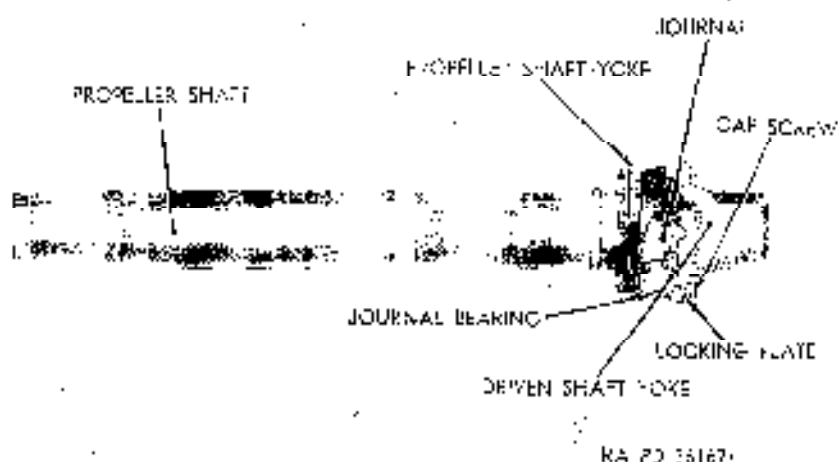

Figure 215. Yoke-mounted universal joint.
c. *Universal Joints.* The universal joint (figs. 215 and 216) installed at each end of the propeller shaft consists of a journal with four journal bearings, two of which are secured with cap screws to the propeller shaft yoke. The other two journal bearings are secured by cap screws either on a yoke (fig. 215) installed on the driver shaft, or to an adapter flange (fig. 216) which is bolted to a companion flange installed on the driven shaft.
- (1) Bend down two locking plates, remove four cap screws securing two journal bearings (two cap screws from each bearing) to driven shaft yoke, and remove propeller shaft and journal assembly from yoke (Fig. 215).
- (2) Repeat (1) above at other end of propeller shaft assembly, and remove propeller shaft assembly from vehicle.
- (3) Bend down two locking plates, remove four cap screws securing two journal bearings (two cap screws from each bearing) to propeller shaft yoke, and remove journal and bearing assembly from propeller shaft.
- (4) Repeat (3) above at other end of propeller shaft assembly.
screws in holes in locking plate, yoke, and journal bearing (Fig. 215).